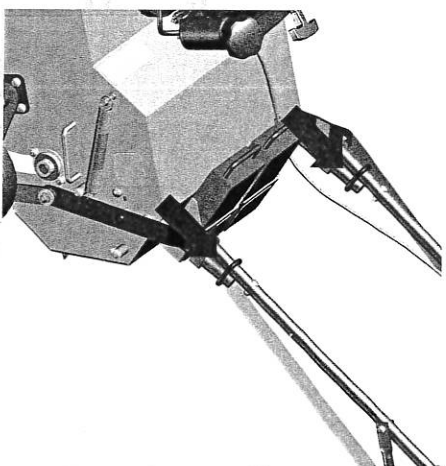

Figure 4
- Slide lock rings up and over the bolt as shown in figure 4